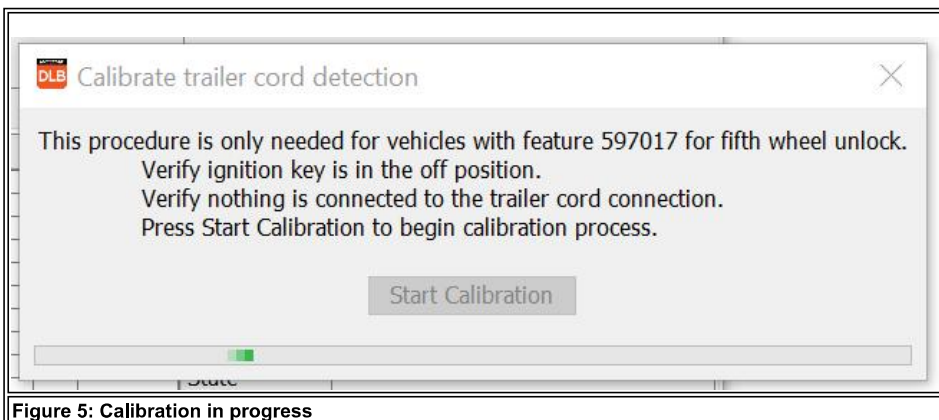
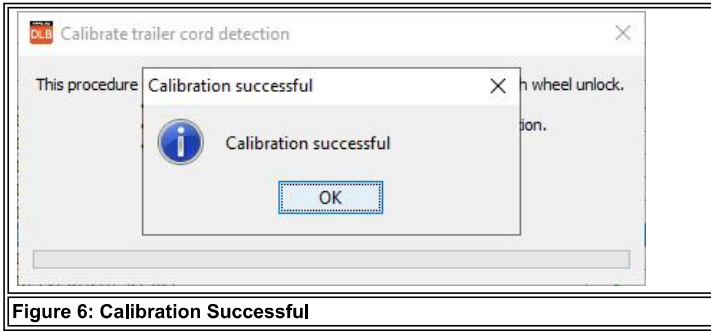
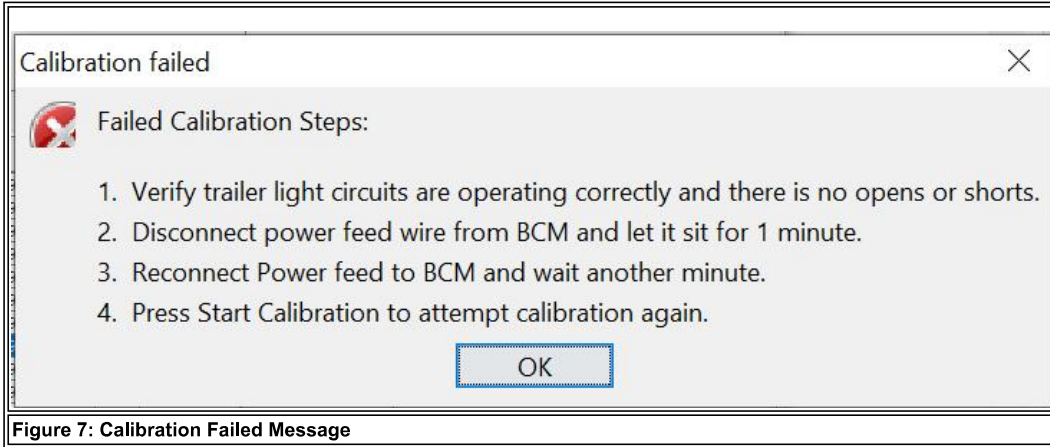

Figure 5: Calibration in progress
Figure 6: Calibration Successful
Figure 7: Calibration Failed Message
7. During Calibration the tool window will look like Figure 5 with a green indicator bar scrolling across the screen. Calibration should take less than 2 minutes and if successful the tool will display Calibration Successful message (Figure 6) and the instrument cluster will beep. Disconnect the service tool and verify correct function of the fifth wheel unlock feature. If the failed calibration message pops up (Figure 7) follow the on screen steps to resolve the issue and attempt to calibrate again. If it fails again try the manual calibration procedure below.